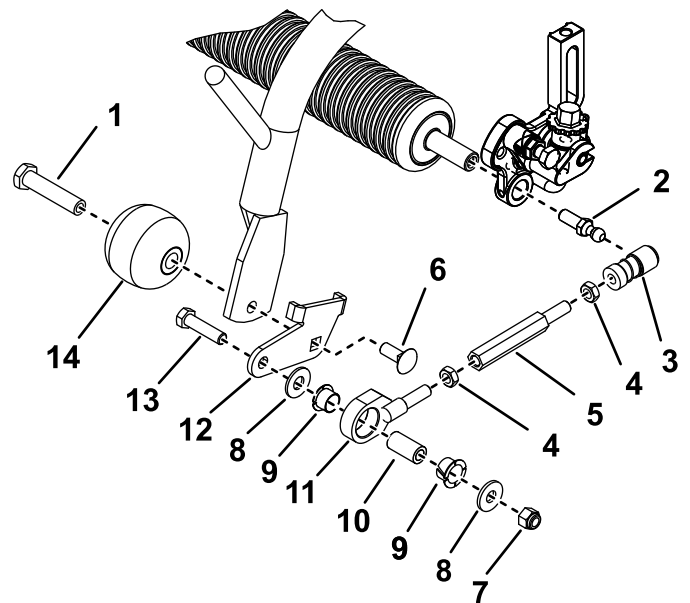

Figure 4
4. Thread a previously removed jam nut onto each of the new longer pull-arm extensions and onto the existing pull-link and bushing assemblies (Figure 4).
5. Assemble the new longer pull-arm extensions to the existing pull-link assemblies and ball-joint receiver assemblies (Figure 4). Do not tighten the jam nuts at this time.
6. Mount the appropriate link bracket (left or right) and a previously removed anti-scalp roller to the end of each front carrier frame with a new carriage bolt and roller shaft. Position the brackets as shown in Figure 4.
7. Mount a pull-link assembly to the outside of each link bracket with a new bolt (3/8 x 2 inches), previously removed flat washer, 2 new bushings, a previously removed spacer, flat washer and locknut. Position the components as shown in Figure 4.
8. Slide back the sleeve on the ball-joint receivers and install the receivers onto the ball studs (Figure 4).